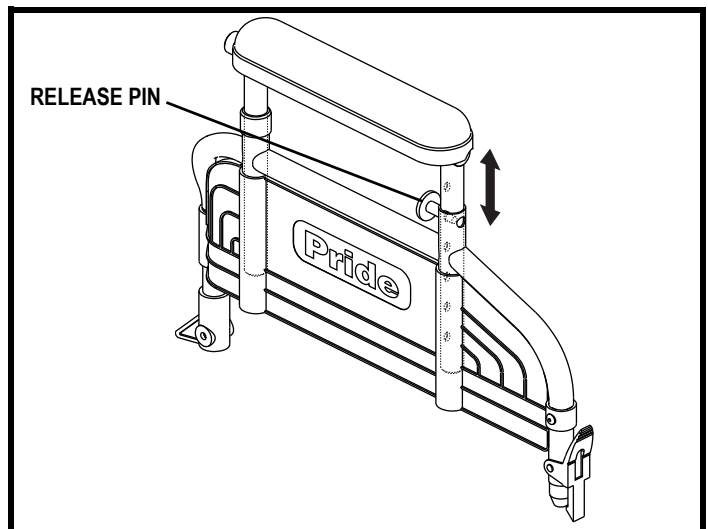

Figure 23. Armrest Height Adjustment
1. Pull back and hold the release pin located on the armrest. See **figure 23**.